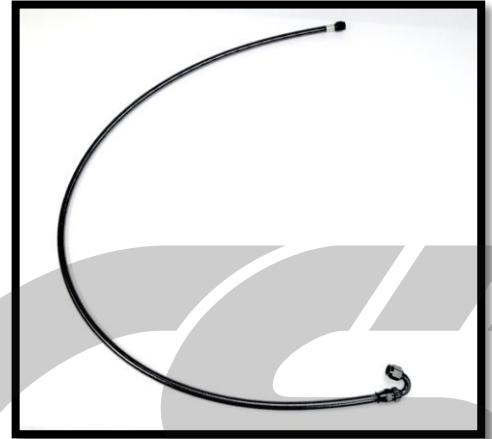

Figure 12a
- a) Locate the longest fuel line in your kit. It also has a sharp bend on one end. Shown in **Figure 12a**.